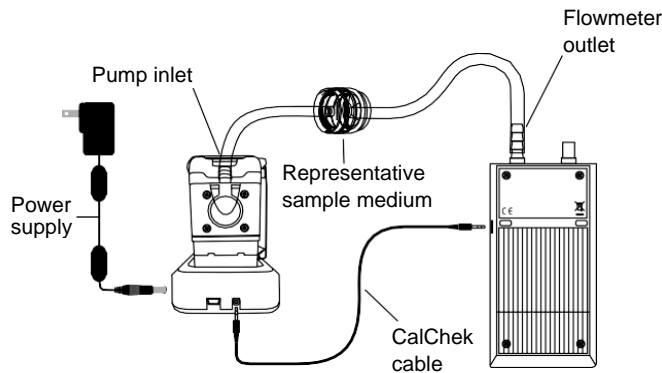

Figure 4. CalChek Single Calibration Train (AirChek TOUCH Pump)
4. Prepare appropriate CalChek single or full calibration train (see Figures 4 through 7). **Note:** Use 1/4-inch ID flexible tubing for AirChek TOUCH and 3/8-inch ID flexible tubing for Leland Legacy. Use a calibration adapter if required.